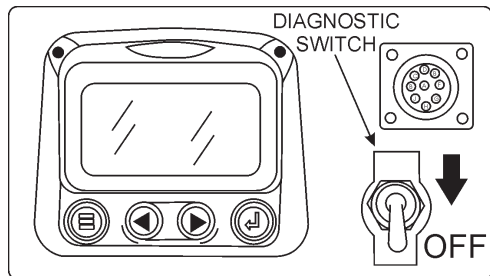

Figure 39. Diagnostic Switch (OFF position)
1. Before starting the engine, make sure the diagnostic switch (Figure 39) on the Diagnostic Display Panel Assembly is in the "OFF" position.